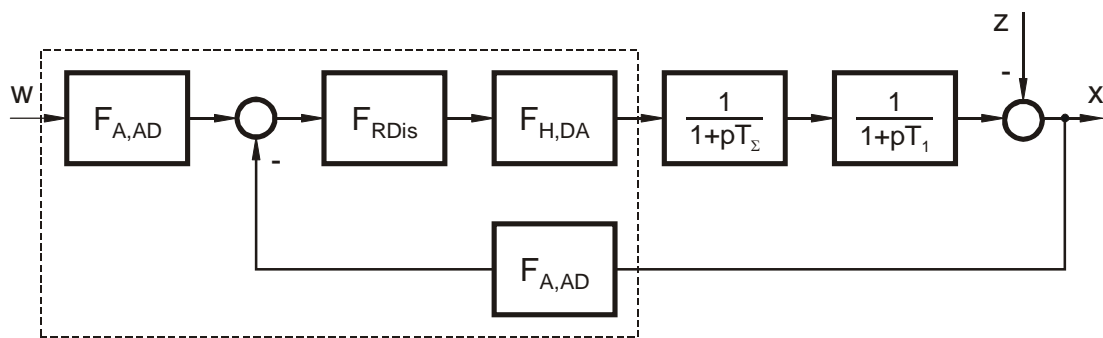

Fig. 1
2.2 Ascertain the transfer function for a time-discrete controller according to the Time-discrete Technical Optimum for the control circuit shown in Fig. 1. using the parameters given in section 4. Act thereby on the assumption of a continuous PID-controller. Ascertain the controller coefficients for the sampling times given in Table 1 and  $e = 0$ .
2.3 Ascertain the transfer function for a time-discrete controller with finite settling time for the control circuit shown in Fig. 1. Design the transfer function for a settling time of three sampling Steps and  $y_0 = y_1$ . Calculate the controller coefficients for the sampling times given in Table 1.
Parameters of the plant shown in Fig. 1: